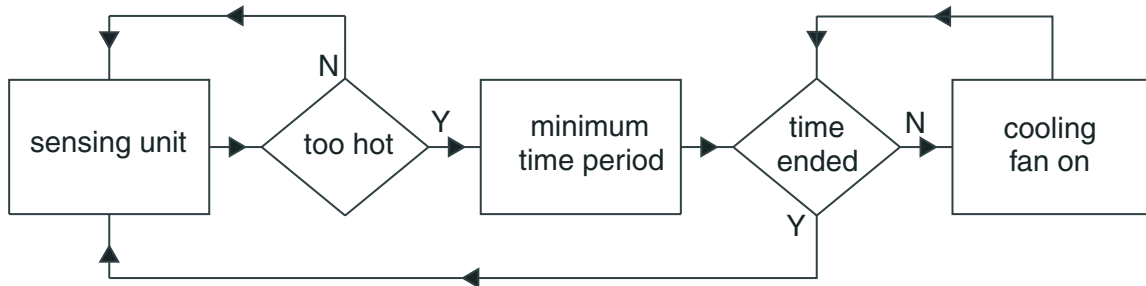

Fig. 10
- 3 Vehicle cooling systems have been electronically controlled for many years. Fig. 10 shows a flow diagram of a typical system. The temperature of the coolant should not exceed 110°C.